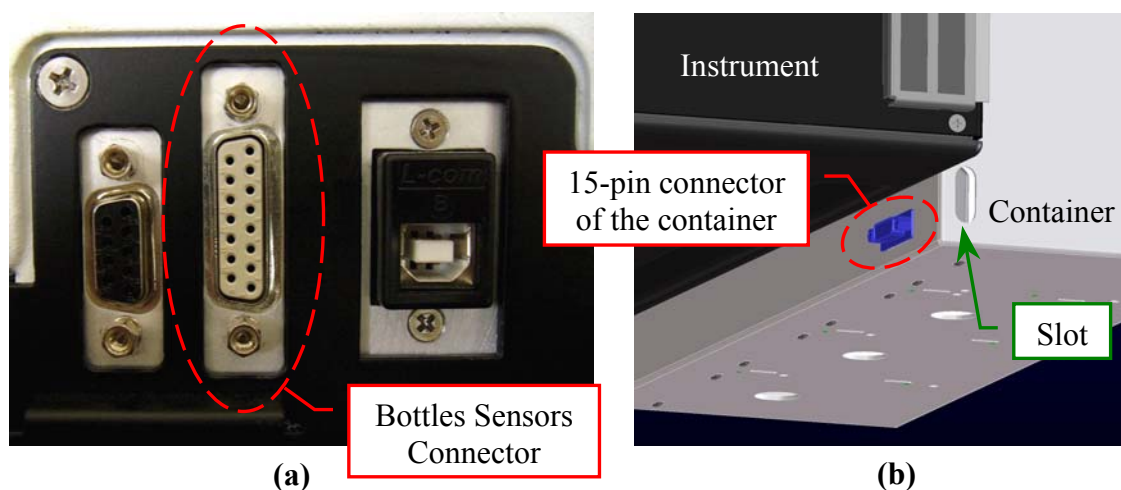

Fig. 4 [(a), (b)] – Connectors to plug the “Bottles Connection Cable”
8. Take the “Bottles Connection Cable” (P/N: 50-02684-00) and plug its 15-pin male connector in the 15-pin connector (showed in the **Fig. 4-a**) located on the back side of the instrument (*Bottles Sensors Connector*).
9. Plug the 15-pin female connector of the “Bottles Connection Cable” in the 15-pin connector of the container (showed in the **Fig. 4-b**) located on its back side.
3. Push the four loading tubes through the slot of the container (**Fig. 4(b)**) and pull them into the container.